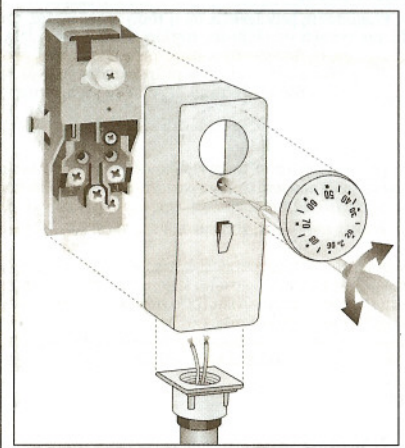

fig.3 - εικ.3
- Fix the appliance to the pipe by means of its specific fastener. (fig.3)